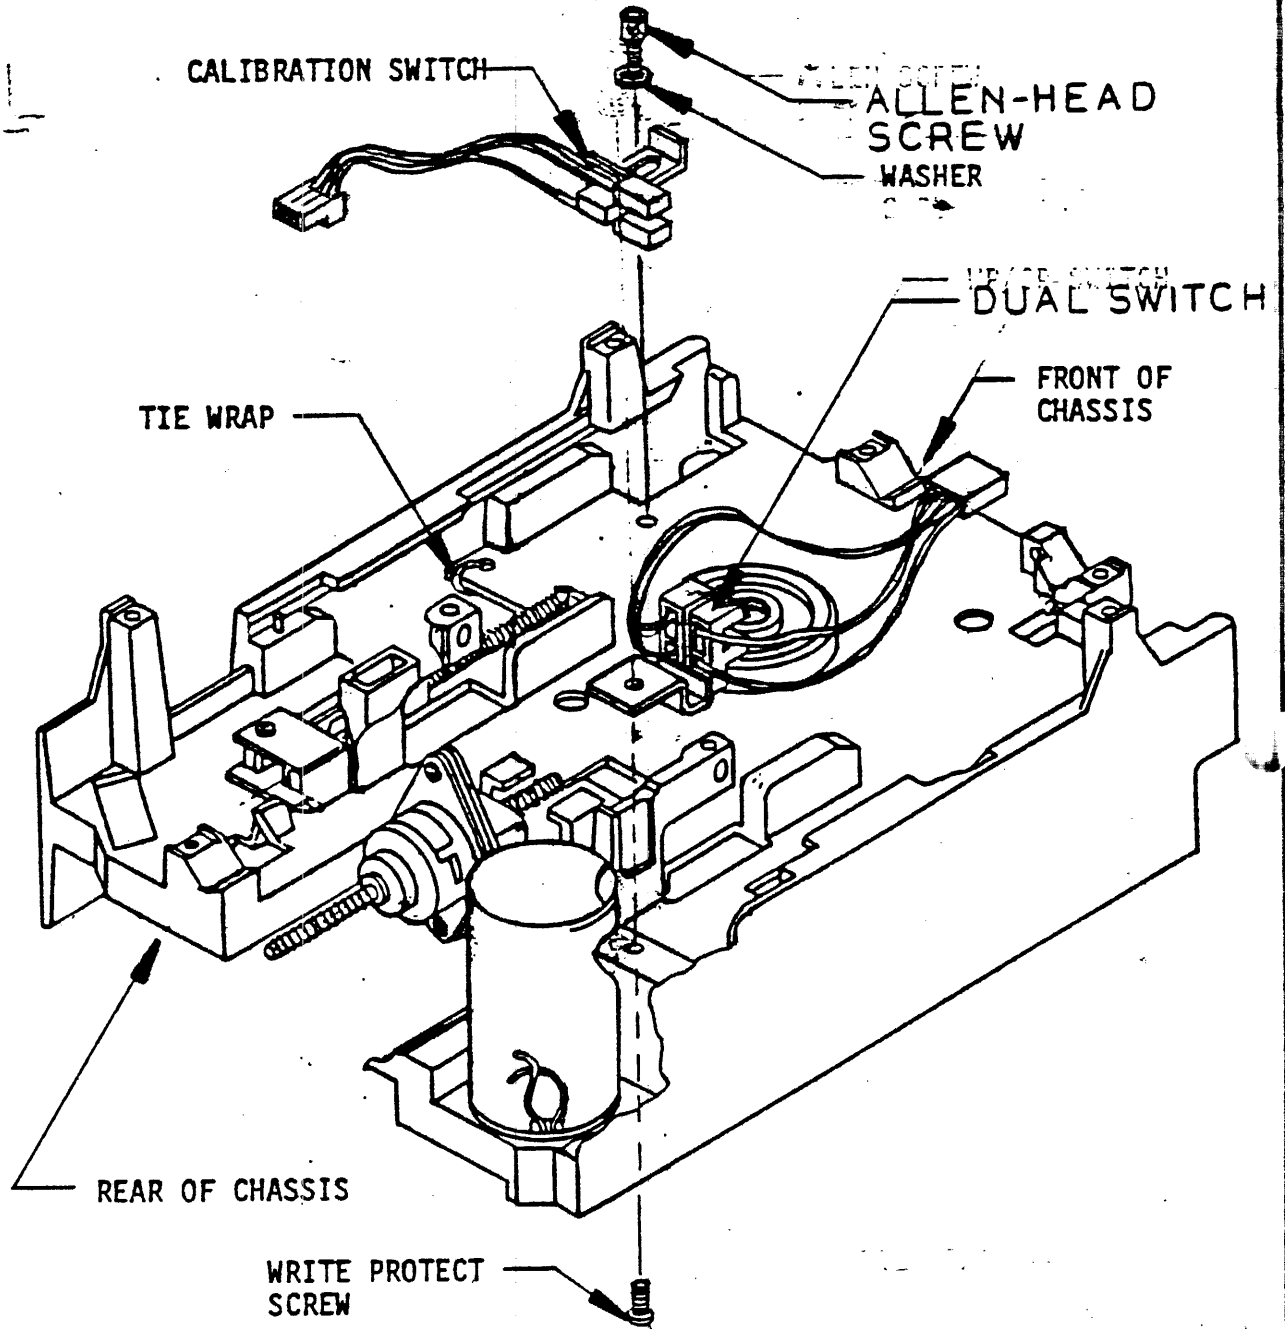

FIGURE 1. THE INSTALLATION OF THE DUAL & CALIBRATION SWITCHES (TOP VIEW)
- 7.5.1 Place the D.C. motor on the chassis as shown in Fig.1. Make sure the wires are out over the edge of the chassis.